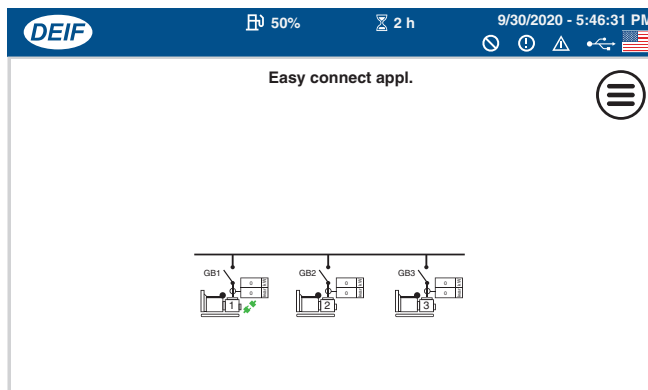

Figure 147. Supervision Screen (Circuit Breakers Closed)
12. Verify that the generator layout on the Supervision screen (Figure 147) shows all generators in the paralleled system.